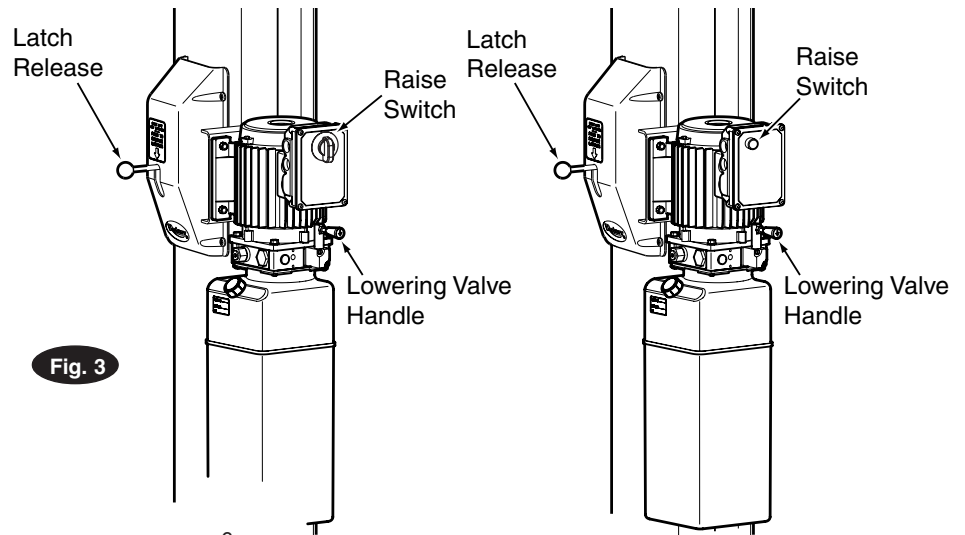

Fig. 3
- For all lifts. Push RAISE switch on power unit, Fig. 3.
- D. Push LOWERING valve handle to lower, Fig. 3.